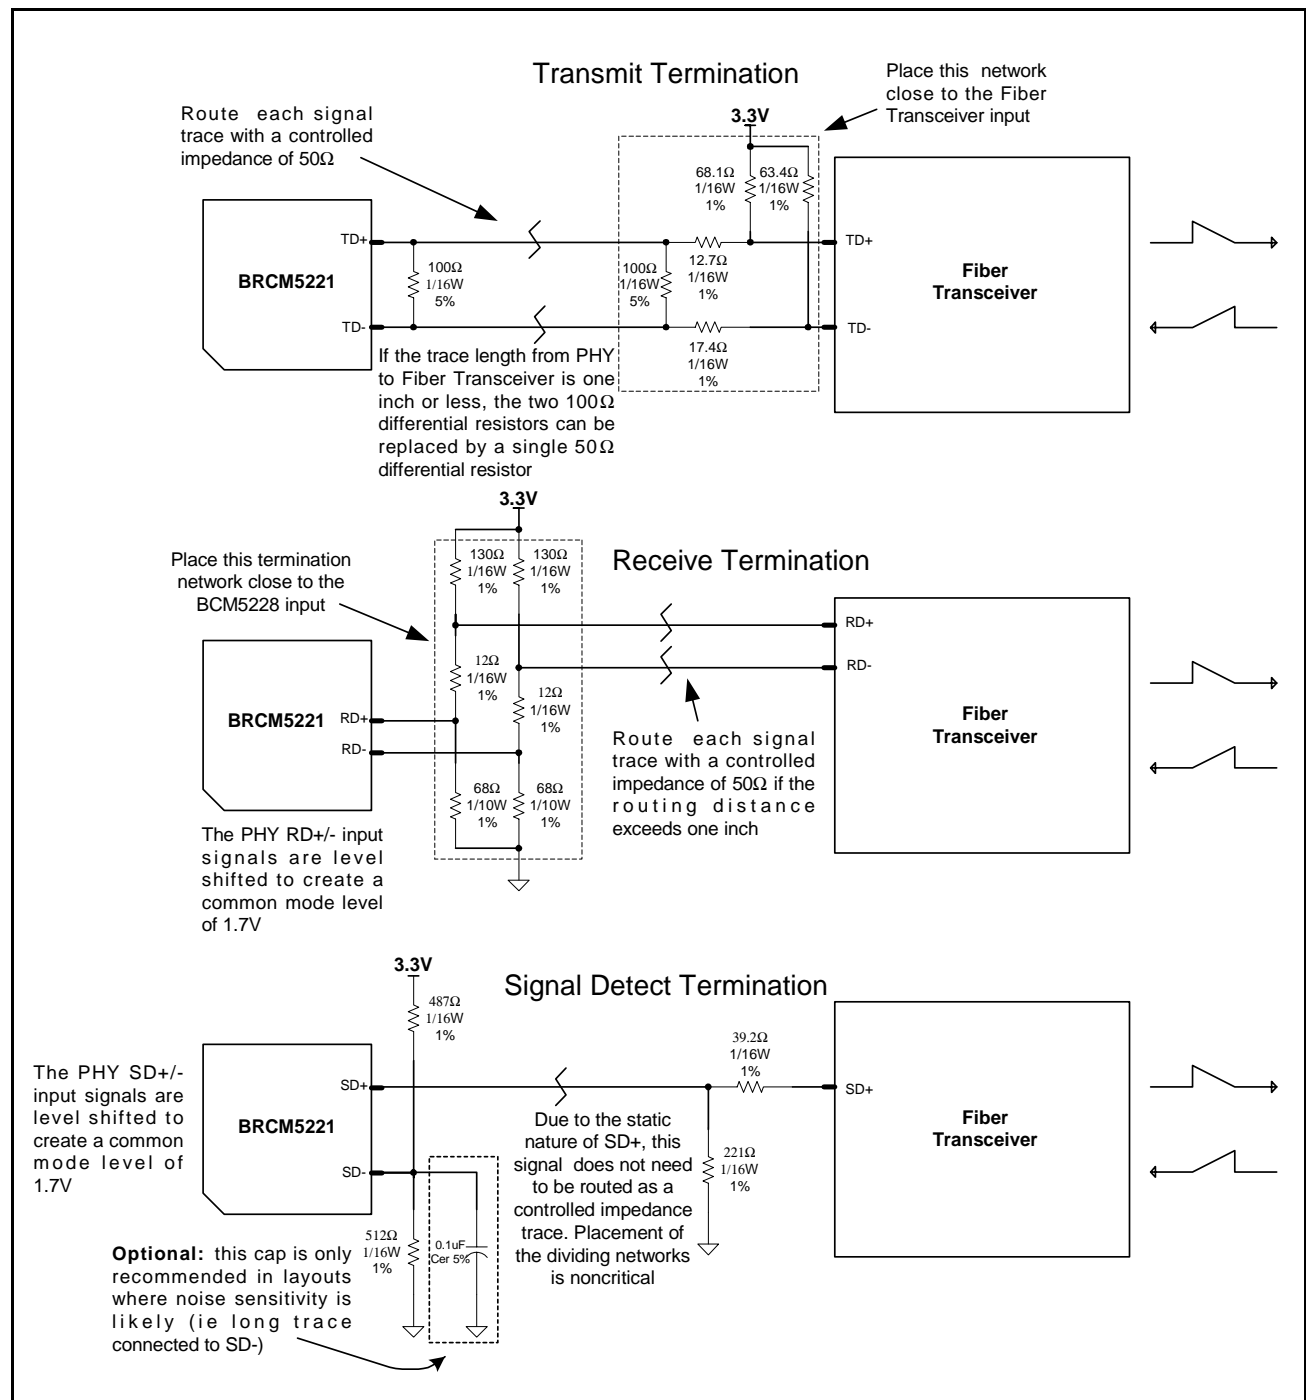

Figure 3: BCM5221 3.3V 100BASE-FX Interface
The BCM5221 supports 100BASE-FX operation via the SD+/-, RD+/-, and TX+/- pins. The connection diagrams in Figure 3 on page 6 illustrate the proper termination and level shifting required to interface the BCM5221 to a 3.3V fiber transceiver.
Figure 3 illustrates only the termination scheme for the 100BASE-FX interface. Refer to the fiber transceiver manufacturer's guidelines for transceiver power supply connection and filtering.
The TD+/- and RD+/- signal traces between PHY and the fiber transceiver should each be routed with a characteristic impedance of 50Ω (100Ω differential) to match the termination network impedance given in Figure 3.
Configuring the BCM5221 100Base-FX operation is accomplished simply by connecting the SD+ input to a 100Base-FX compliant transceiver and by setting the potential of the SD- pin as shown in Figure 3. There is no way to configure for 100Base-FX operation via software.
**RD+/-**. Because the RD+/- inputs of the BCM5221 are internally biased, and because typical 3.3V fiber transceivers normally source PECL with a Vbb (center of the voltage swing) of approximately 2.0V, level shifting is required. Additionally, if the system layout requires that the RD+/- trace lengths are more than approximately one inch, take care to set up the termination to account for transmission line effects as well (as indicated in Figure 3).